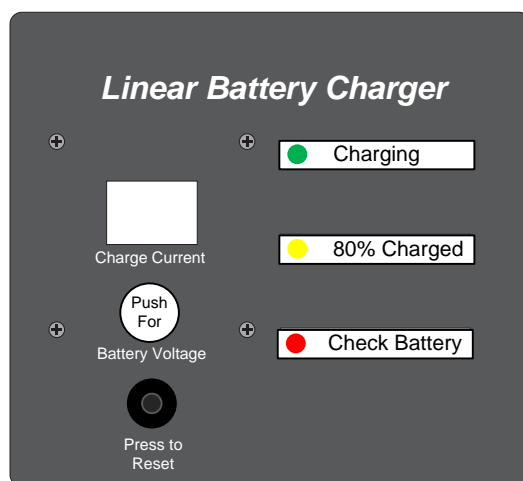

Figure 4-1. Battery Charger Faceplate
- Plug the **EXTENSION CORD** into outlet. Verify that the **GREEN CHARGING** indicator **LED** is lit on the **BATTERY CHARGER FACEPLATE**. Refer to Figure 4-1.
- To display the Battery Voltage, press (push) in, and hold the **BATTERY VOLTAGE** button. Refer to Figure 4-1.